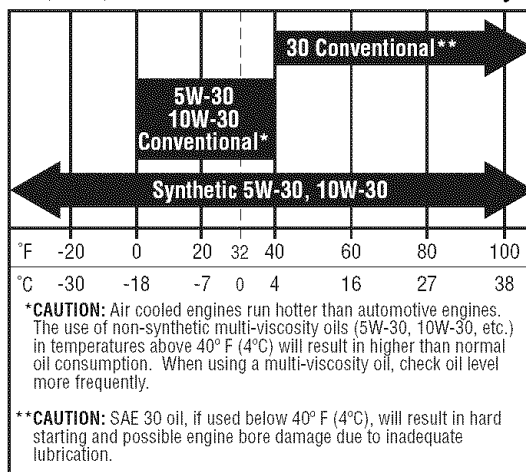
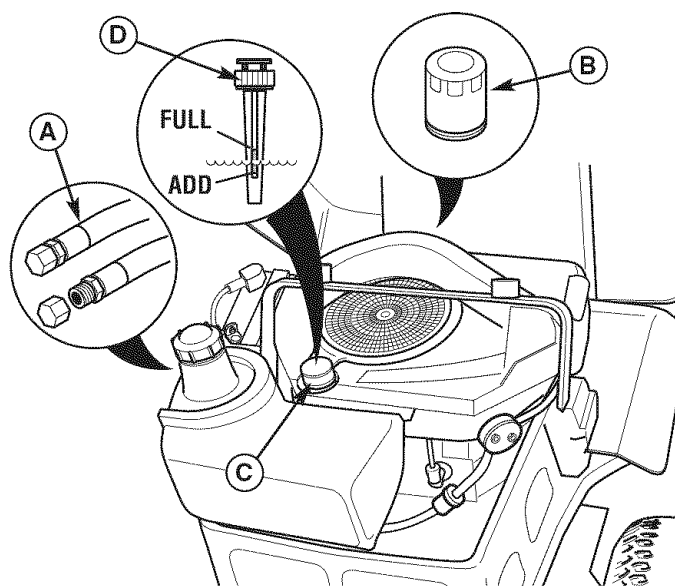

Figure 24. Recommended Engine Oil - Briggs & Stratton Models
Figure 25. Oil Change - Briggs & Stratton Models
2. Clean the area around the dip stick (C, Figure 25).
3. Remove the dip stick (C) and clean it with a paper towel.
4. Insert the dip stick back into the engine. Thread the cap back onto the tube (D).
5. Remove the dip stick and read the oil level. The oil level should be between the "FULL" and "ADD" marks (D). If not, add oil according to the oil recommendations chart (Figure 24).
1. Clean the area around the dip stick (C, Figure 25) and oil drain tube (A).
2. Remove the oil drain plug (A) from the end of the oil drain tube. Remove the dip stick (C). Allow ample time for complete drainage.
3. Reinstall the oil drain plug (A) and route the hose next to the engine.
1. Clean the area around the dip stick (C, Figure 25) and oil drain (A).
2. Remove the oil drain plug (A) and dip stick (C). Allow ample time for complete drainage.
3. Remove the oil filter (B). Discard the filter.
7. Reinstall the oil drain plug (A).